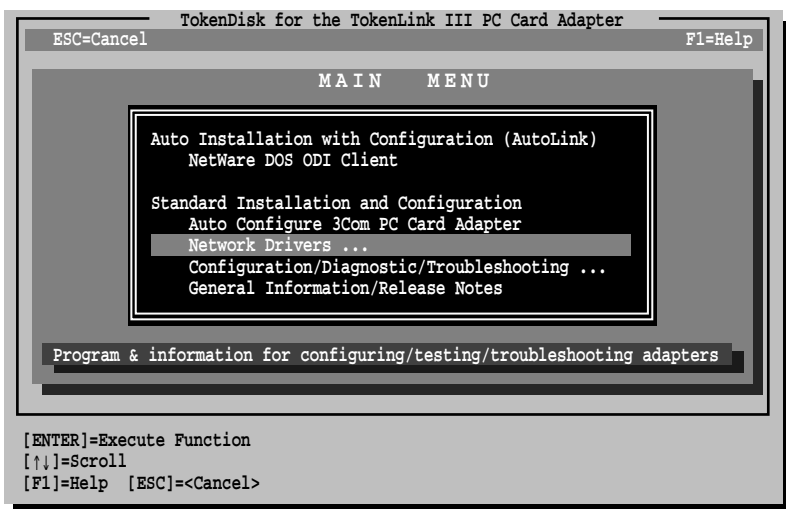

Figure 5-2 Main Menu with Network Drivers Option Selected
- 1 From the main menu, select Network Drivers and press [Enter]. See Figure 5-2.**